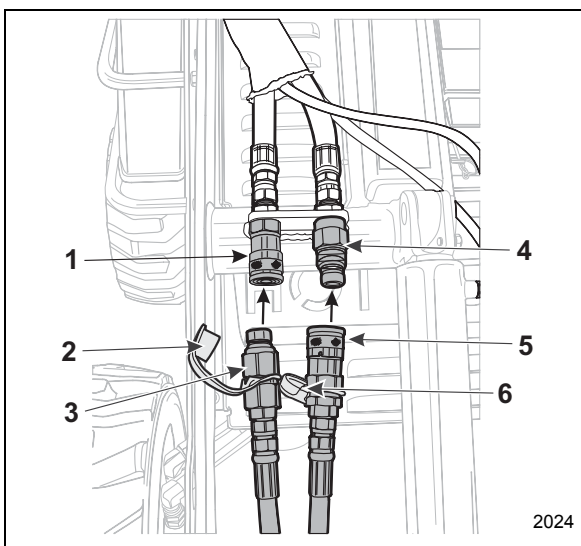

Figure 3–30 Auxiliary Hydraulic Quick Connects
- d. Insert the attachments' male coupling (Item 3, Figure 3–30) into the female bulkhead quick connect coupling (Item 1, Figure 3–30) on the machine and push until the connector locks into position.
- e. Repeat the above process to connect the attachments' female quick connect (Item 5, Figure 3–30) on the other hose to the male bulkhead connector (Item 4, Figure 3–30) on the machine.